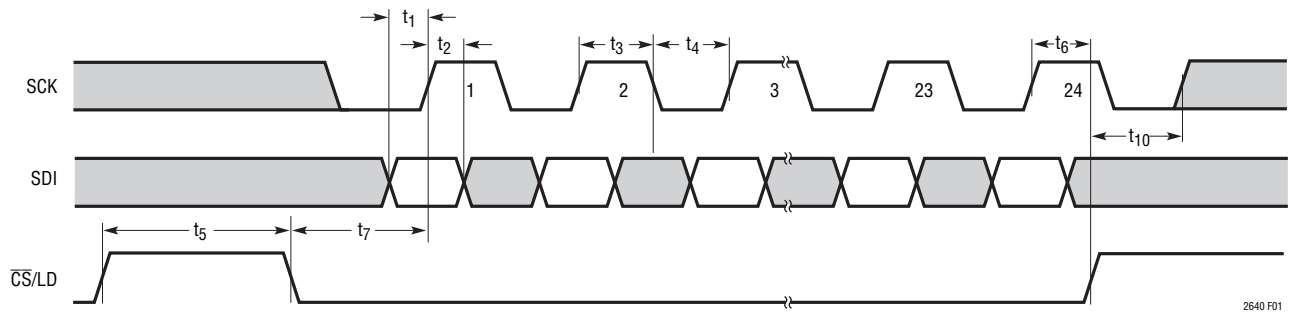

Figure 1. Serial Interface Timing
**TIMING CHARACTERISTICS** The ● denotes the specifications which apply over the full operating temperature range, otherwise specifications are at  $T_A = 25^\circ\text{C}$ .  $V_{CC} = 4.5\text{V}$  to  $5.5\text{V}$ . (See Figure 1) (Note 7).